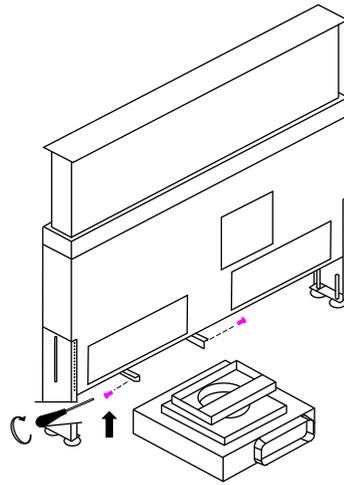

Fig 14
4. Position the motor beneath the hood in line with the plenum support and secure it with 2 screws (Fig 14) then fit duct.